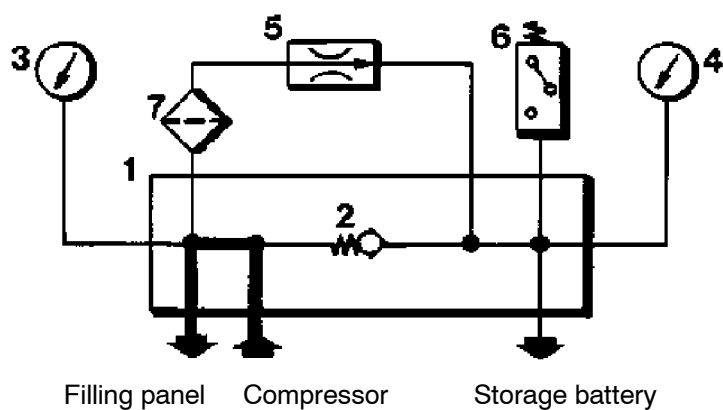
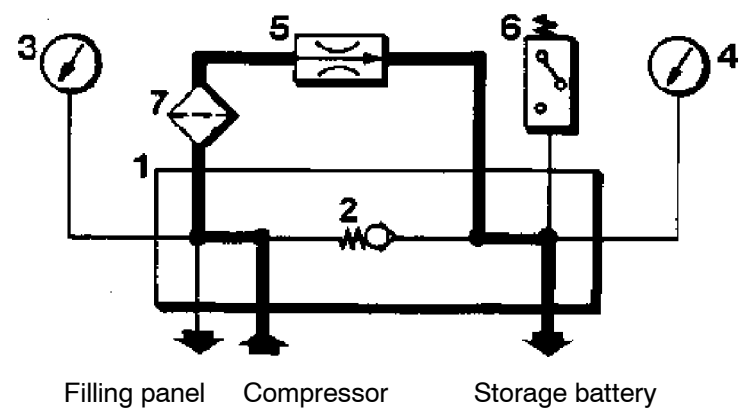

Fig. 37 Filling with the compressor
Fig. 38 Filling storage cylinders
- If, after filling several cylinders the storage cylinder pressure has dropped to the min. value set on the pressure switch of the automatic switching device, the compressor automatically switches on and fills the cylinders directly (see Fig. 37).
- If more cylinders are filled, they will be filled directly from the compressor (1) .
- As soon as no more cylinders are to be filled or when their final pressure has been reached, the pressure maintaining valve opens and allows the air to flow from the compressor (1) straight into the storage cylinders (2) until they are full and the max. set value on the pressure switch of the automatic switching device stops the compressor (1) (see Fig. 38) .
- The same principle can also be used, when the storage cylinders (2) are filled at "only" 200 bar.
- Then not as many cylinders can be filled by overflow, however the total filling time is shorter, as quite a lot of air can be taken out of the storage cylinders (2) (until equilization of pressure has been reached) and the the compressor (1) is automatically switched on and the residual amount is filled up.